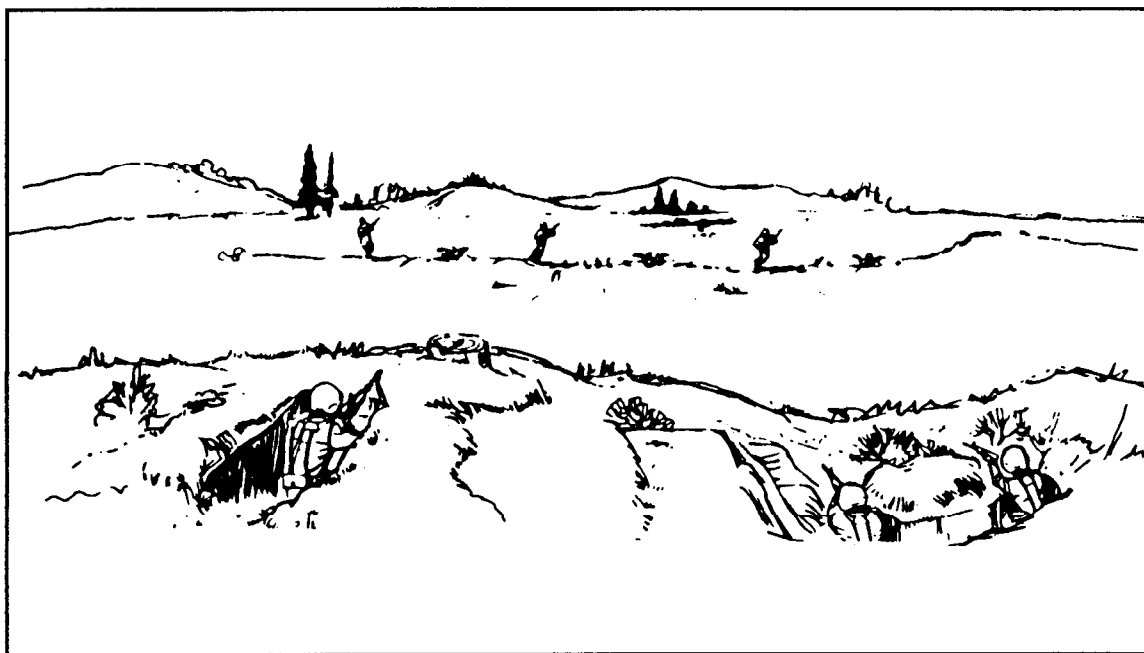

Figure 6-7. Linear targets.
(1) **Linear targets.** The grenadier sights on what appears to be center of mass. He fires the grenade launcher left and right across the target on successive aiming points (Figure 6-7).